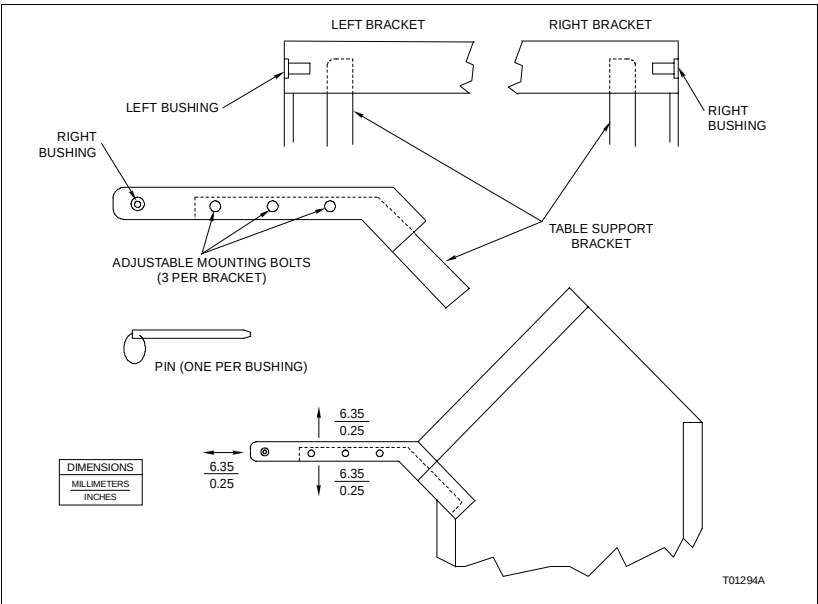

Figure PR3-1. Work Surface Installation
- 2. Once a unit is secure, insert the table support brackets into the cabinet (Fig. PR3-1).